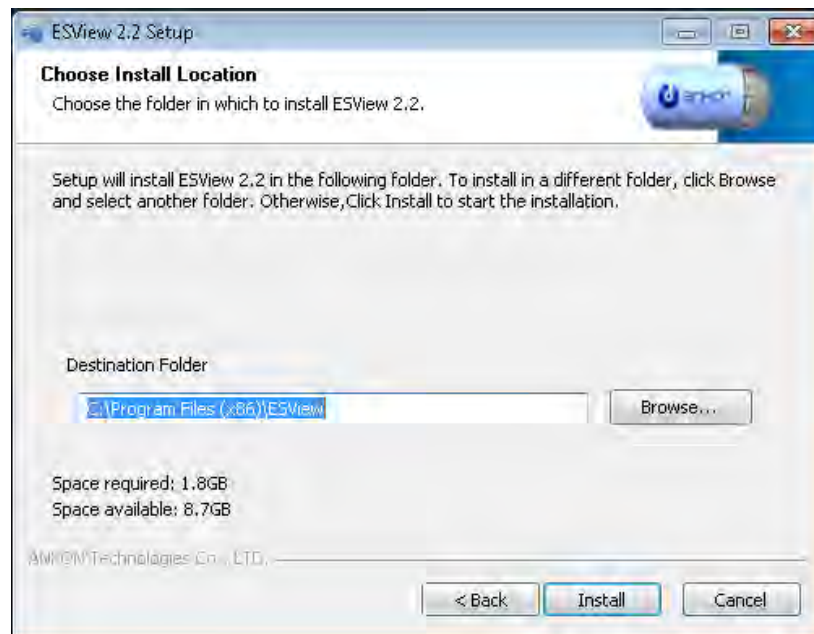

Figure 3-3: Selection of Installation Directory
- The dialog box for selecting the destination folder (Figure 3-3) is displayed. The default installation directory is C:\Program Files(x86)\ESView. Click “Browse” to change the directory. Click “Install” to continue installation in the selected directory.